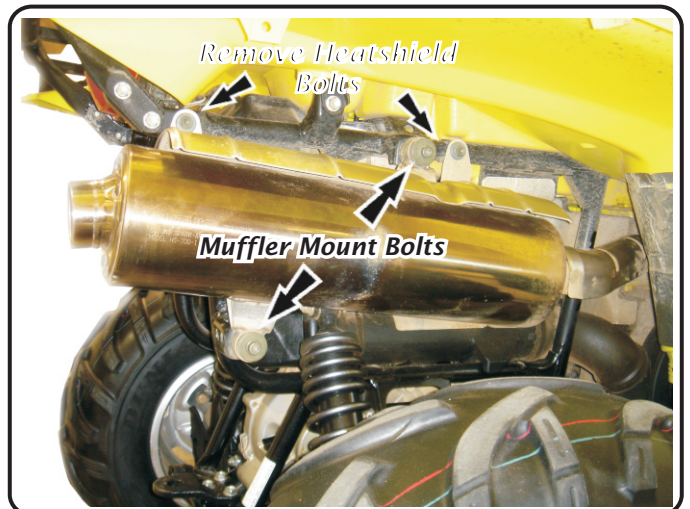

Fig. 2
- 2 Unbolt and remove stock muffler and heatshield. (See Fig. 2)